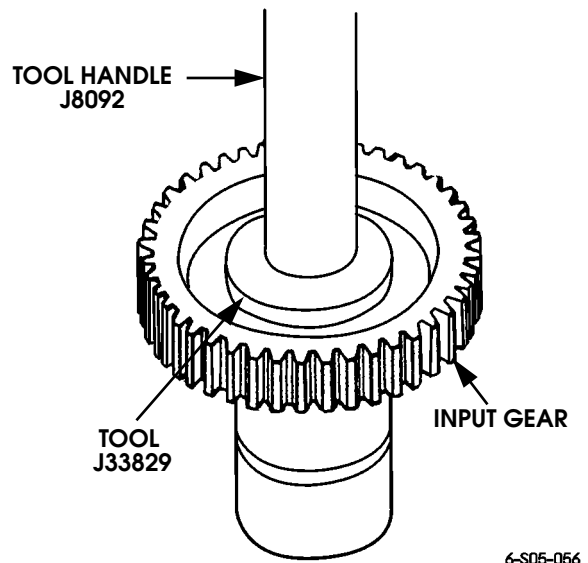

Figure 5-128: Installing Mainshaft Pilot Bearing In Input Gear
2. Install new pilot bearing in gear with tool handle J8092 and tool J33829 (Figure 5-128). Seat bearing flush with chamfer in bearing bore.